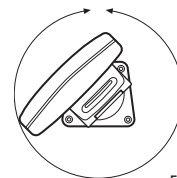

Figure 1
- The mounting area should allow sufficient room for the unit to pivot and swivel freely, and for easy removal and installation (Figures 1 and 2).